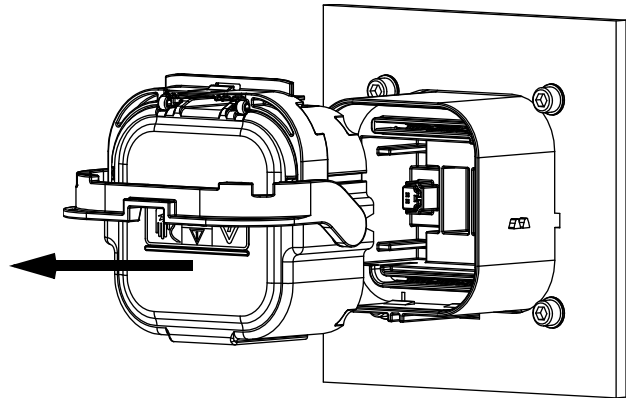

Figure 11
5. Pull straight back on the plug lever in order to disengage it from the receptacle as shown in Figure 11.